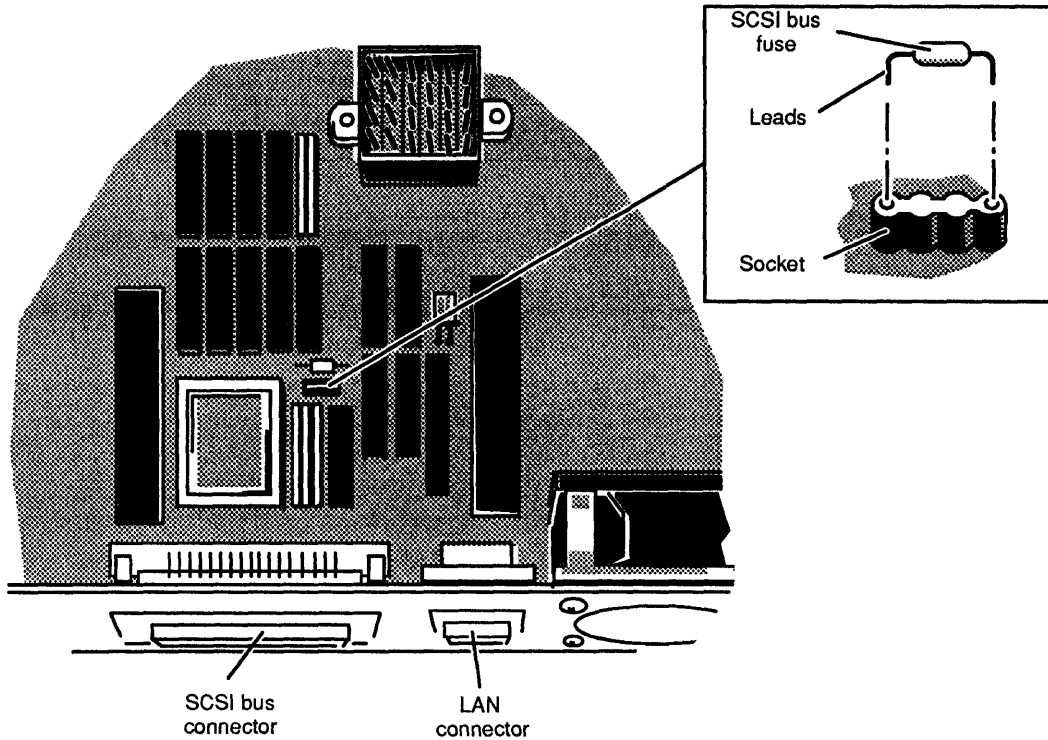

Figure 4-34 Removing or Installing the SCSI Bus Fuse
3. With the power supply removed, gently pry the SCSI bus from its socket on the printed-circuit board with the small flat-blade screwdriver until you can remove the fuse with your fingers. The location of the fuse is shown in Figure 4-34 .
4. Align the leads of the replacement 2 A, 125 V Pico (SCSI bus) fuse with the holes in the socket, as shown in Figure 4-34. Press the fuse into the socket until it is firmly seated.